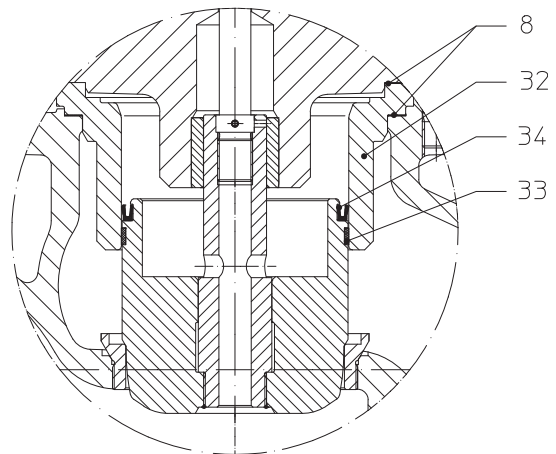

Fig. 17: Pressure balanced plug
- Remove plug as described in item 7.2.1.
- Prise worn piston seal (pos. 34) out of groove in plug with suitable tool (e.g. screwdriver).
- Insert new piston seal (pos. 34), taking care that it is in the correct position (refer to Fig. 17).
- Replace guide ring (pos. 33).
- Clean sliding surface of guide bush (pos. 32); smooth with fine abrasive if necessary.
- Replace 2 gaskets (pos. 8).
- Secure with nuts (pos. 10) and tighten them crosswise.